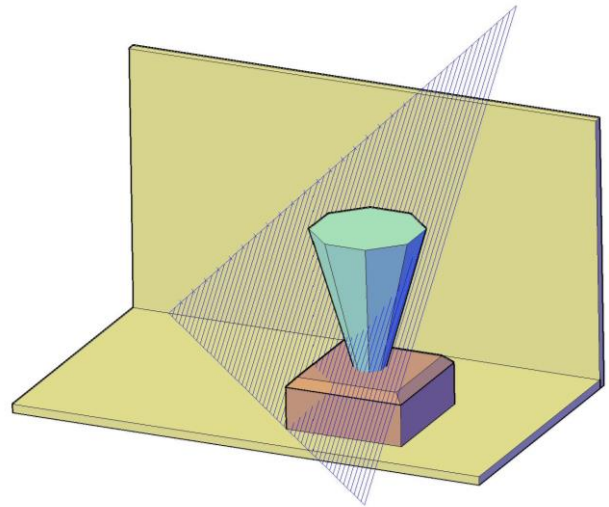

Figure 5a
5. A trophy consists of an inverted octagonal pyramid, partly inserted in a square, chamfered base. The trophy is cut by an oblique plane VTH to complete the final design, as shown in Figure 5a.